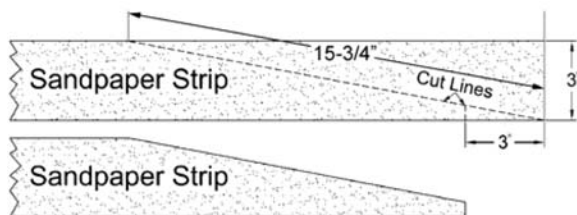

Figure 8
1. Mark and cut a taper at one end of the roll, as shown in Figure 8.
2. Square off the end of the taper, as shown in Figure 8.
7. Remove the abrasive strip and cut a taper as was done with the starting edge (Figure 8).